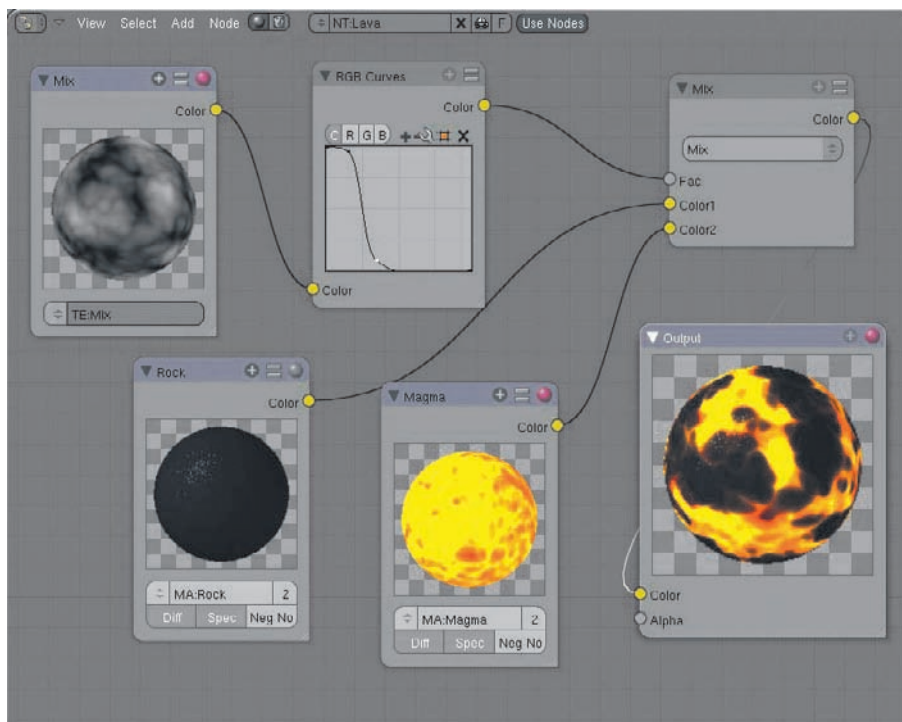

Figure 1.13 Finished node setup for lava
7. Add an RGB Curves node by pressing the spacebar and choosing Add > Color > RGB Curves. This will enable you to tweak the contrast and brightness of the factor value going into the Mix node. Connect the Mix node to the RGB Curves node, and the RGB Curves node to the Fac connection point on the Mix node, as shown in Figure 1.13. All that remains is to tweak the RGB curve to yield the